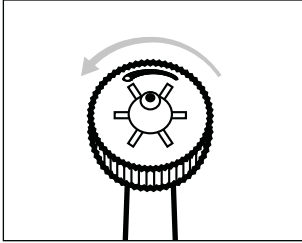

Fig. 4
- ◆ Turn the nozzle control **1** anti-clockwise with your fingers to obtain a single jet for targeted removal of food remnants from hard-to-reach areas (see Fig. 4 and 5).